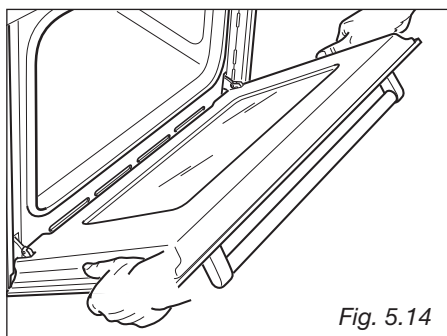
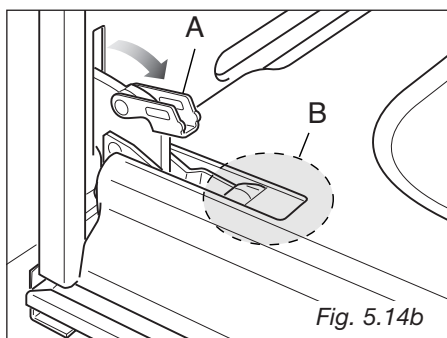

Fig. 5.14
Fig. 5.14b
- Open the lever "A" completely on the left and right hinges (fig. 5.14b).
- Hold the door as shown in fig. 5.14.
- Gently close the door (fig. 5.14) until left and right hinge levers "A" are hooked to part "B" of the door (fig. 5.14b)
- Hold the door firmly (fig. 5.14).